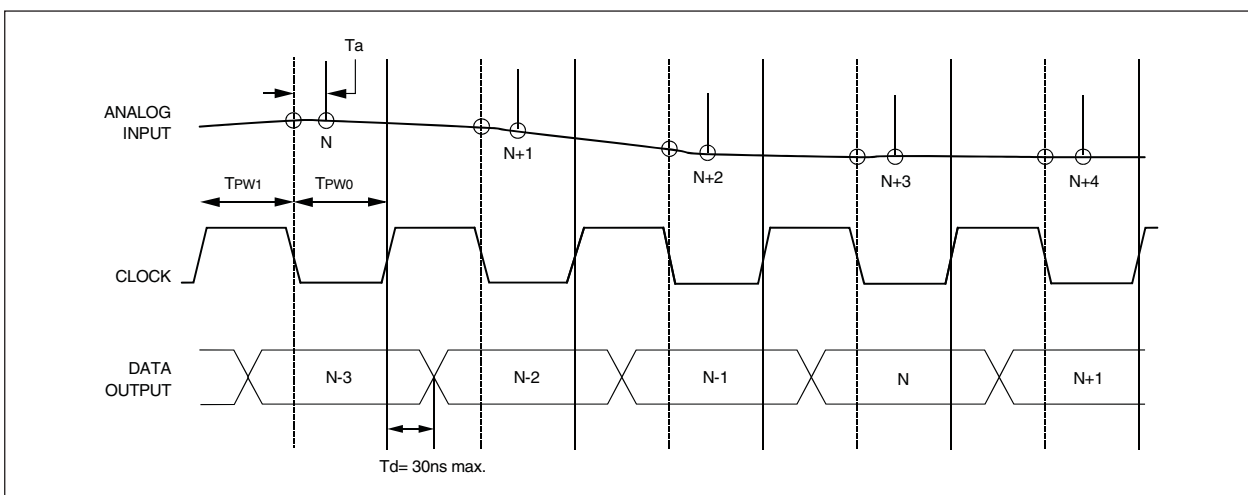

Figure 2. Timing Diagram
- Maximum 30ns (18ns typical) after the rising edge of the Nth conversion pulse, the result of the (N-3) conversion can be obtained. Data is stored firmly in an output register, such as an 74LS574, using the rising edge of a start convert pulse as a trigger. The (N-4) data is stored in this case. See the timing diagrams, Figure 2 and 4.